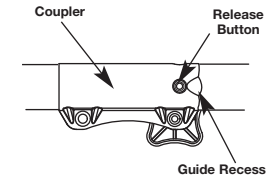

Fig. 2
2. Press and hold the release button (Fig. 2).
NOTE: Aligning the release button with the guide recess will help installation (Fig. 2).